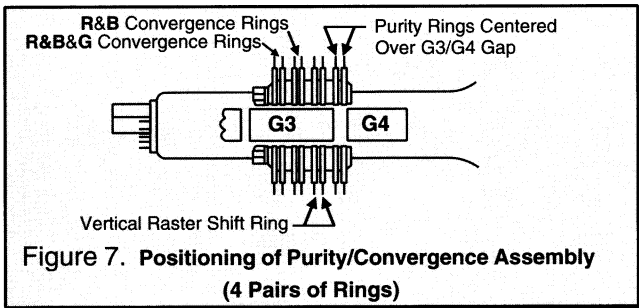
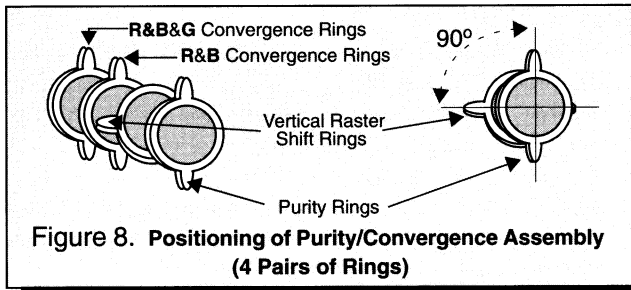
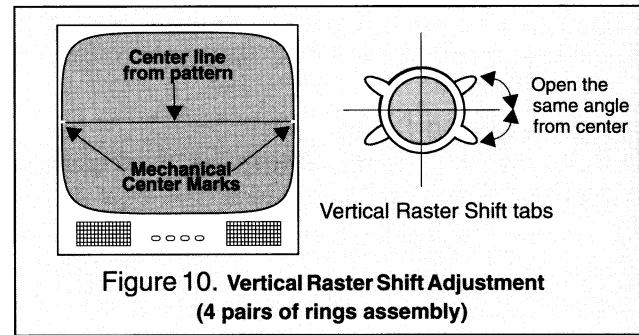

Figure 7. Positioning of Purity/Convergence Assembly (4 Pairs of Rings)
Figure 8. Positioning of Purity/Convergence Assembly (4 Pairs of Rings)
Figure 10. Vertical Raster Shift Adjustment (4 pairs of rings assembly)
For models using 4 pairs of rings, place the vertical raster shift tabs at 3 o'clock (90° from the purity and convergence tabs, see Fig. 7 and Fig. 8)
Adjust center line of the pattern with the mechanical center of the CRT, this center is determined by two marks at the side edges of the screen. To adjust the line, once the vertical raster shift tabs are placed at 3 o'clock to reduce its magnetic field effect (see Fig. 7 and Fig. 8) open the tabs the same angle from the center, until the center line of the pattern becomes a straight line, centered with the marks of the CRT. (see Fig. 10)
**Note:** For models using 4 pairs of rings assemblies see Fig. 7 for details